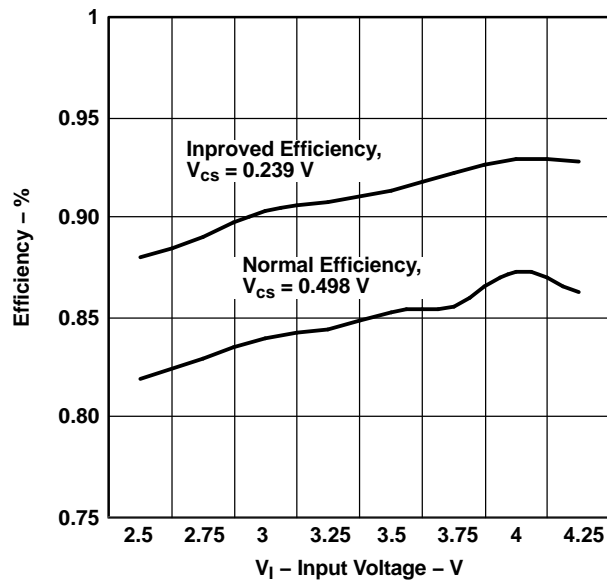

Figure 2. TPS61090 White LED Driver at 750 mA: Efficiency vs Input Voltage
Minimizing power dissipation in the current sense resistor increases efficiency and thus lengthens battery life. The application report *Extending Battery Life with the TPS61040 White Light LED Driver* (SLEA004) explains how to inject voltage into the feedback pin of the integrated circuit (IC) under no-load conditions to reduce the voltage (and thus power dissipation) across the current sense resistor. Sizing resistors R8 and R6 sets the appropriate voltages at the feedback pin of the IC and across the sense resistor. The reference voltage (V_{ref}) is 0.5 V for the TPS61090, and the voltage at the current sense node, V_{CS} , is set to 0.23 V. Figure 2 shows that this method improves efficiency (LED Power/Input Power) by an average of 6%.